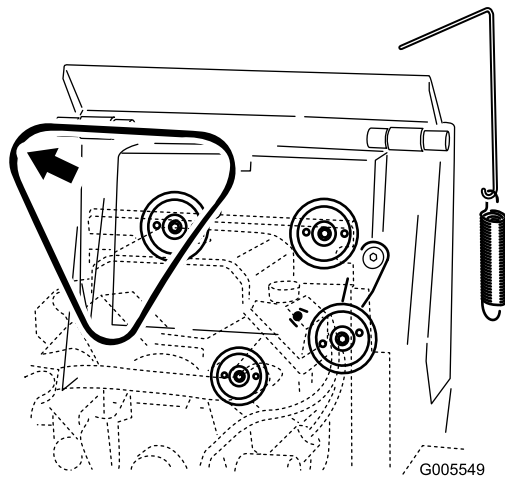

**Figure 48**
4. Remove the idler pulley spring from the idler pulley assembly (Figure 48).
6. Install a new drive belt around the three pulleys (Figure 48).